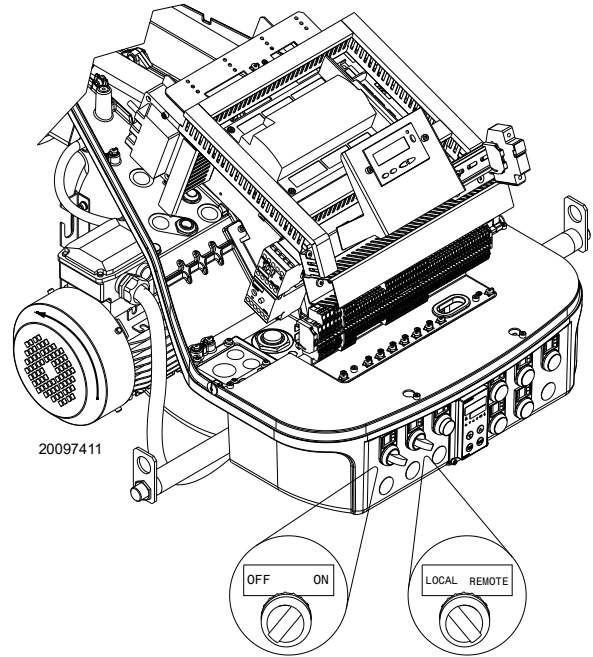

Fig. 37
Please refer to the specific manual for this operation. Turn the switch of Fig. 37 to position “**ON**” and turn the switch of Fig. 37 to position “**LOCAL**”.
Make sure that the lamps or testers connected to the solenoids, or indicator lights on the solenoids themselves, show that no voltage is present. If voltage is present, stop the burner **immediately** and check the electrical wiring. When the burner starts, check the direction of the motor rotation, as indicated in Fig. 37.
- place the switch of Fig. 37 in position “**OFF**” and wait for the flame control to carry out the switch-off phase;